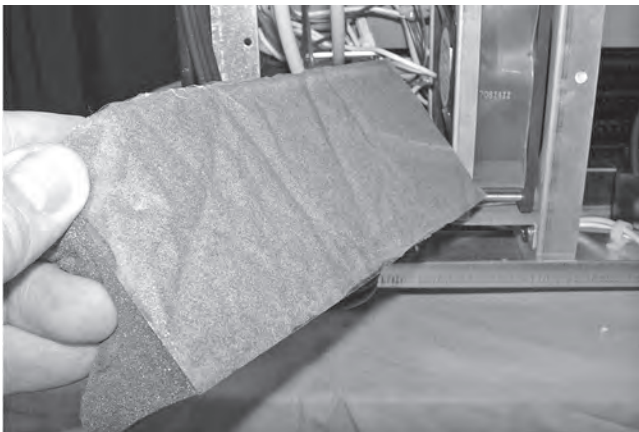

Figure 1
1. Remove insulation strip located next to left side of the cabinet, see figure 1.